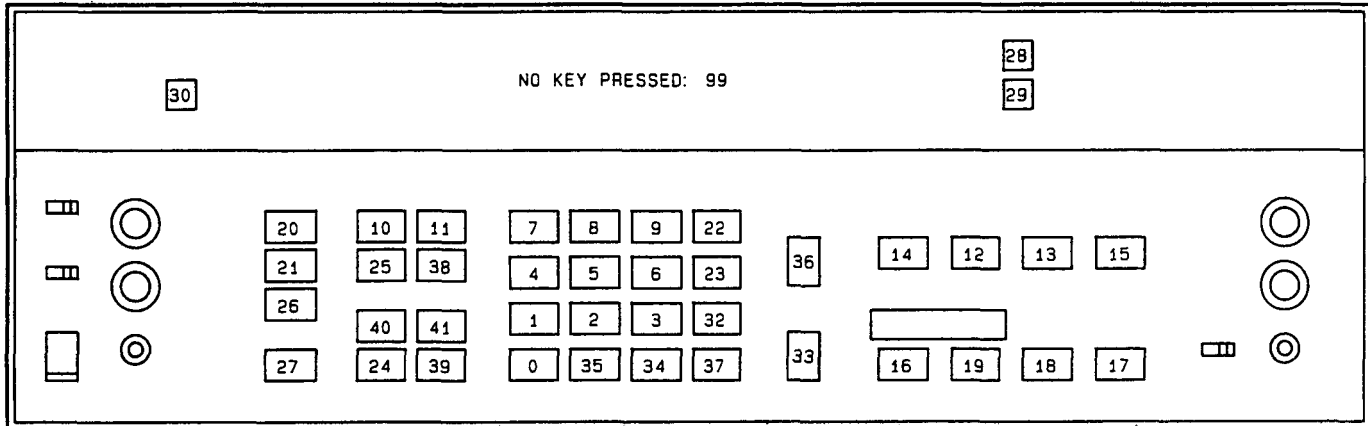

Figure 8D-2. Key Codes for Special Function 60.0,  $\sqrt{5}$  Step 3
3. Press the keys one at a time and compare the display with the key codes shown in Figure 8D-2. If a code other